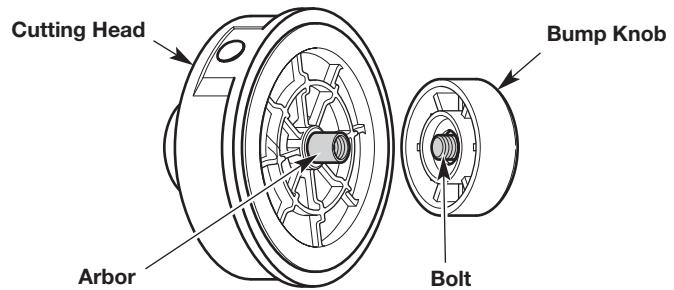

Fig. 27
1. Hold the cutting head in place (Fig. 27). Turn the bump knob clockwise to unscrew it from the cutting head (Fig. 27).
3. Inspect the bolt inside the bump knob to make sure it moves freely (Fig. 27). Replace the bump knob if it is damaged.
5. While holding the inner reel and outer spool together, screw the bump knob on counterclockwise (Fig. 27). Tighten the bump knob securely.